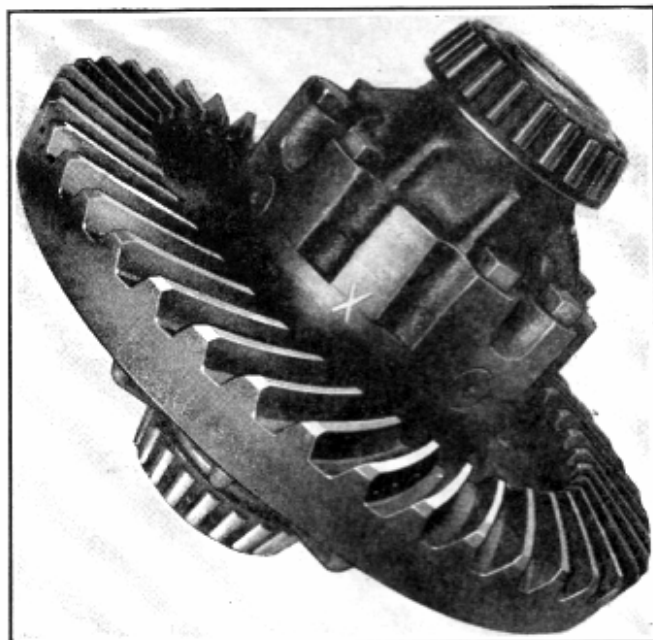

Fig. 36—Mark Differential Halves as Shown
3. Before separating the halves of the differential case, make sure the halves are marked so they can be properly assembled in respect to each other (see Fig. 36).